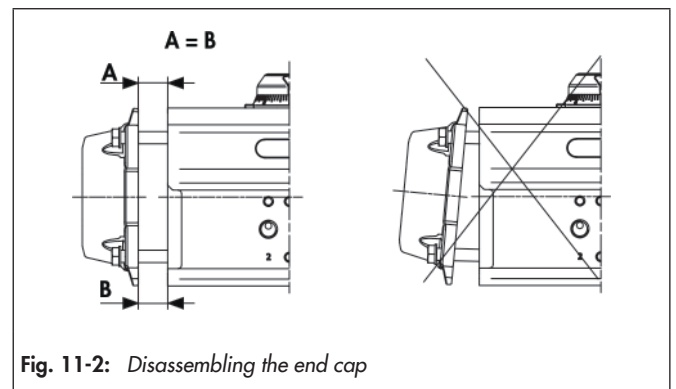

Fig. 11-2: Disassembling the end cap
- ⇒ When disassembling the end cap, maintain a constant distance (A = B) between the actuator housing and the housing interface, see Fig. 11-2.